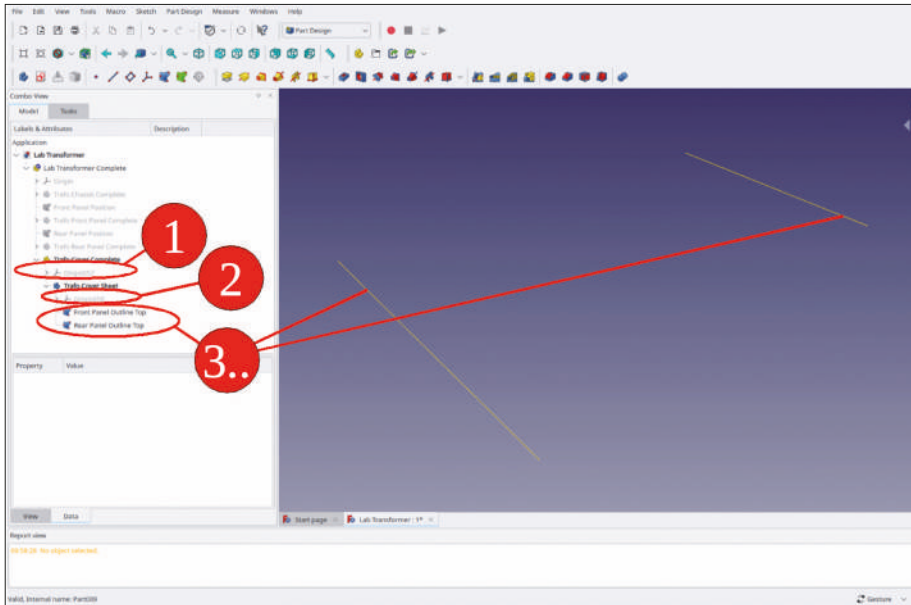

Figure 9-107
6. In the bodies 'Front Panel Sheet' and 'Back Panel Sheet', hide the sketches of the top contours again. In the two bodies, display again the tips. Then, in the tree view, hide all Std-Part-Containers except 'Trafo Cover Complete' with the SPACE key (Figure 9-107). All this hideaway is making the selection of the shape binders easier.